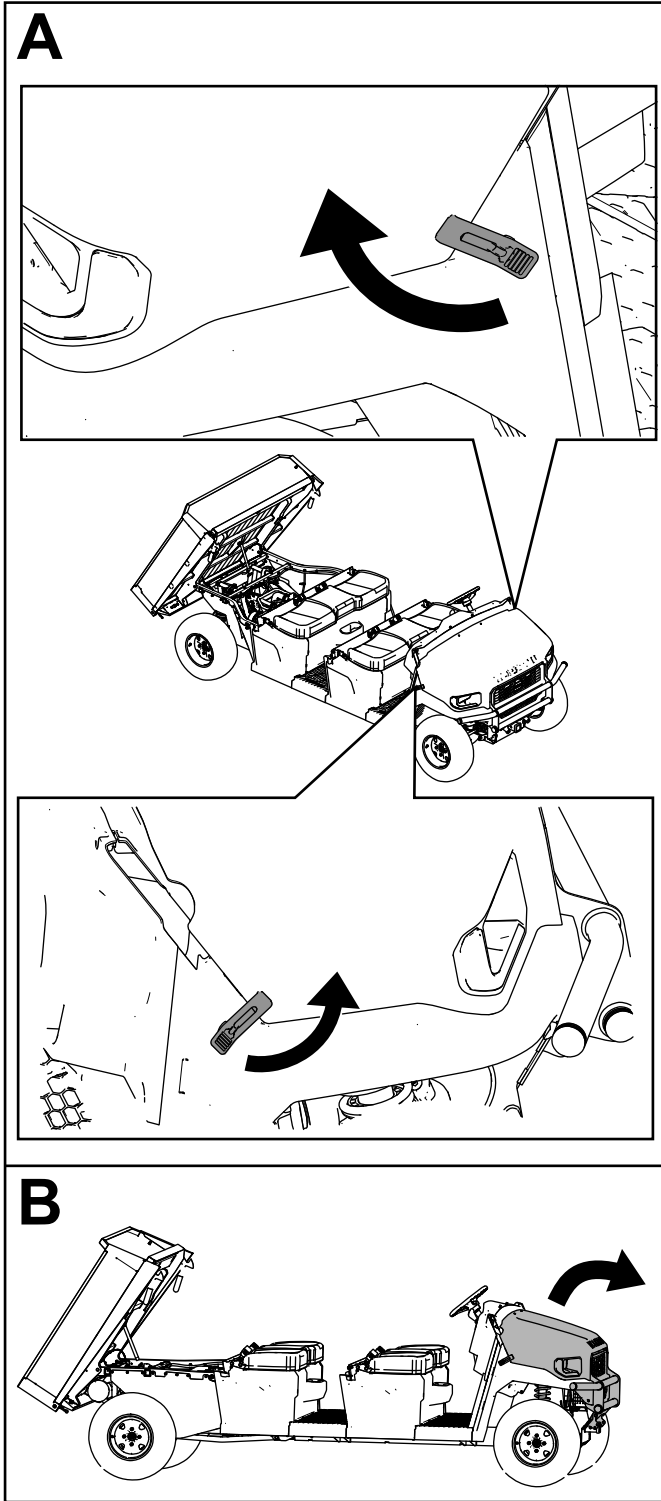

Figure 31
2. Raise the hood (Figure 31).